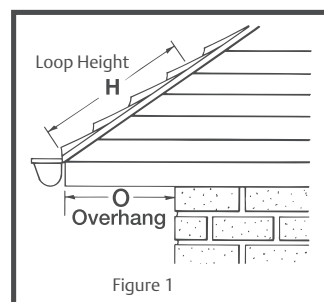

Figure 1
- Step 2: Measure the overhang (shown in Figure 1) and determine the length multiplier for the type of roof, Table 2. Note: If the exact overhang is not listed, use the next larger size available in the chart.